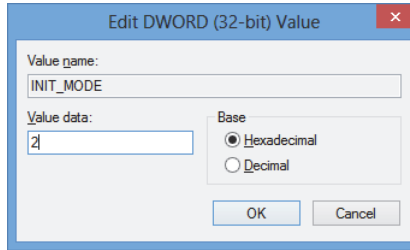

Figure 2-26 The Edit DWORD Value dialog box for the INIT_MODE file
- c) Double-click the **INIT_MODE** file, type **2** in the **Value data** box, and then click **OK** (see Figure 2-26 on page 50).